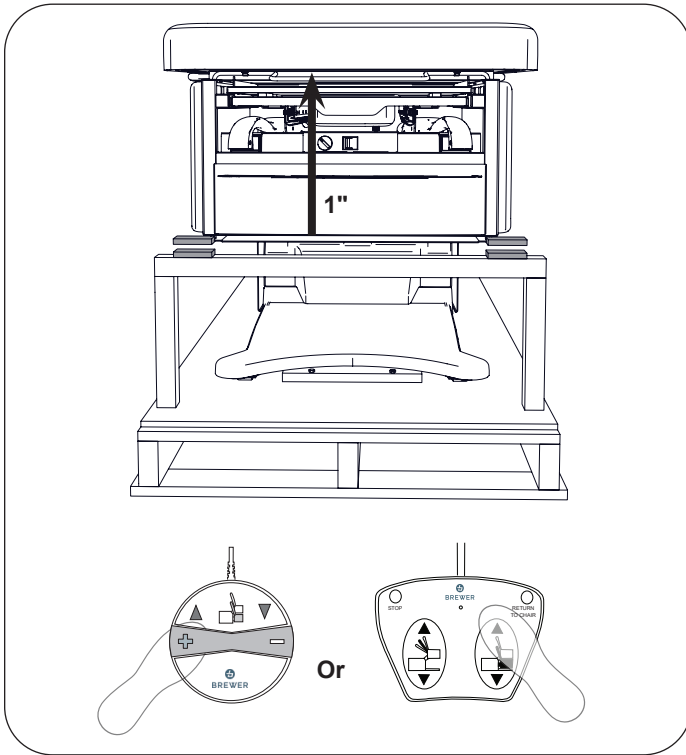

Figure 10. Raise Seat off of Brace
12. Press “Lift Up” on the foot control to raise the seat approximately 1" (Figure 10). Remove the wooden U-brace and shipping spacers at the front of the table.